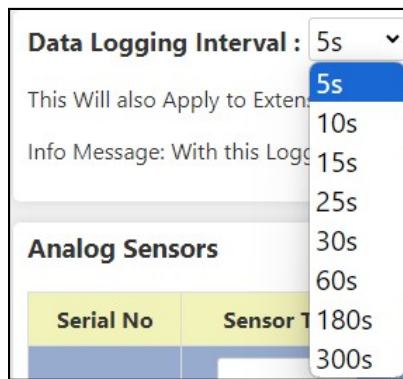

Figure 45: Drop-Down menu for Data Logging Interval
1. Navigate to the drop-down menu as shown in Fig 45.